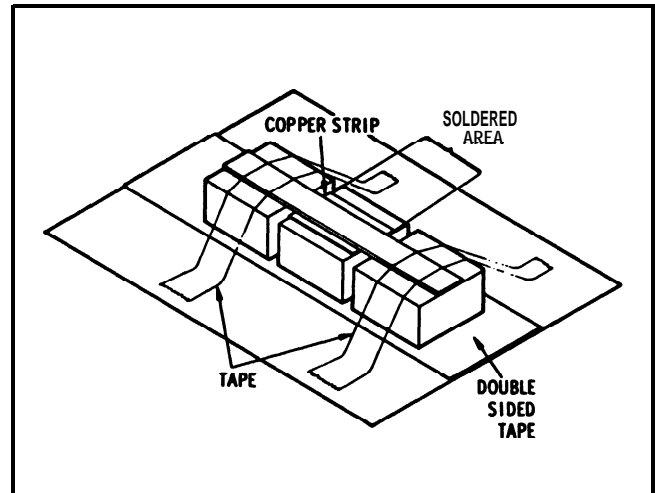

Figure I-5. Making Through-Line Calibrators
b. Align the board with two pieces of dielectric of the same thickness as the board and hold flush to the two stripline edges by pressing all three pieces down on a piece of electrical tape. (See Figure I-5.)